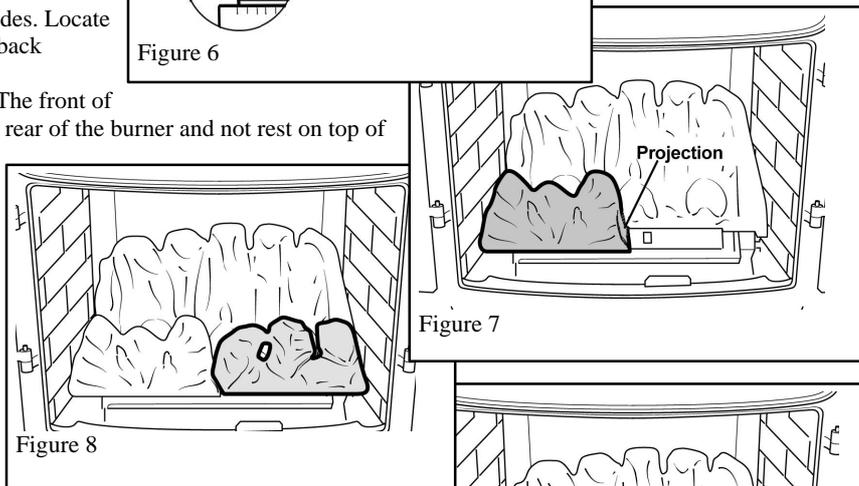

Figure 7
3. Place the left front coal behind the metal lip at the front of the burner. See figure 7.
4. Place the right front coal behind the metal lip at the front of the burner. Its left side should rest over the projection on the left front coal. See figures 7 & 8.